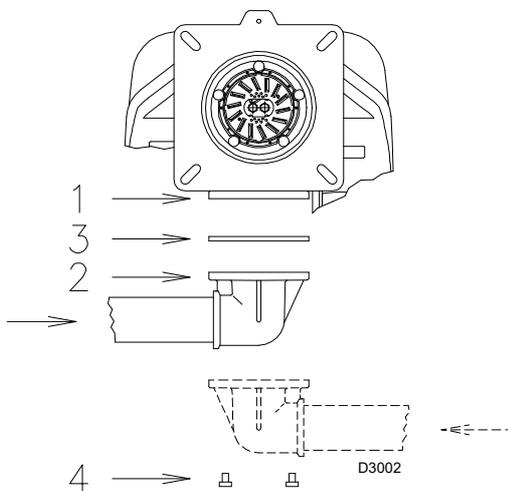

Fig. 32
- The gas train must be connected to the gas connection 1) (Fig. 32), using the flange 2), the gasket 3) and the screws 4) supplied with the burner.
- The train can enter the burner from the right or left side, depending on which is the most convenient, see Fig. 32.